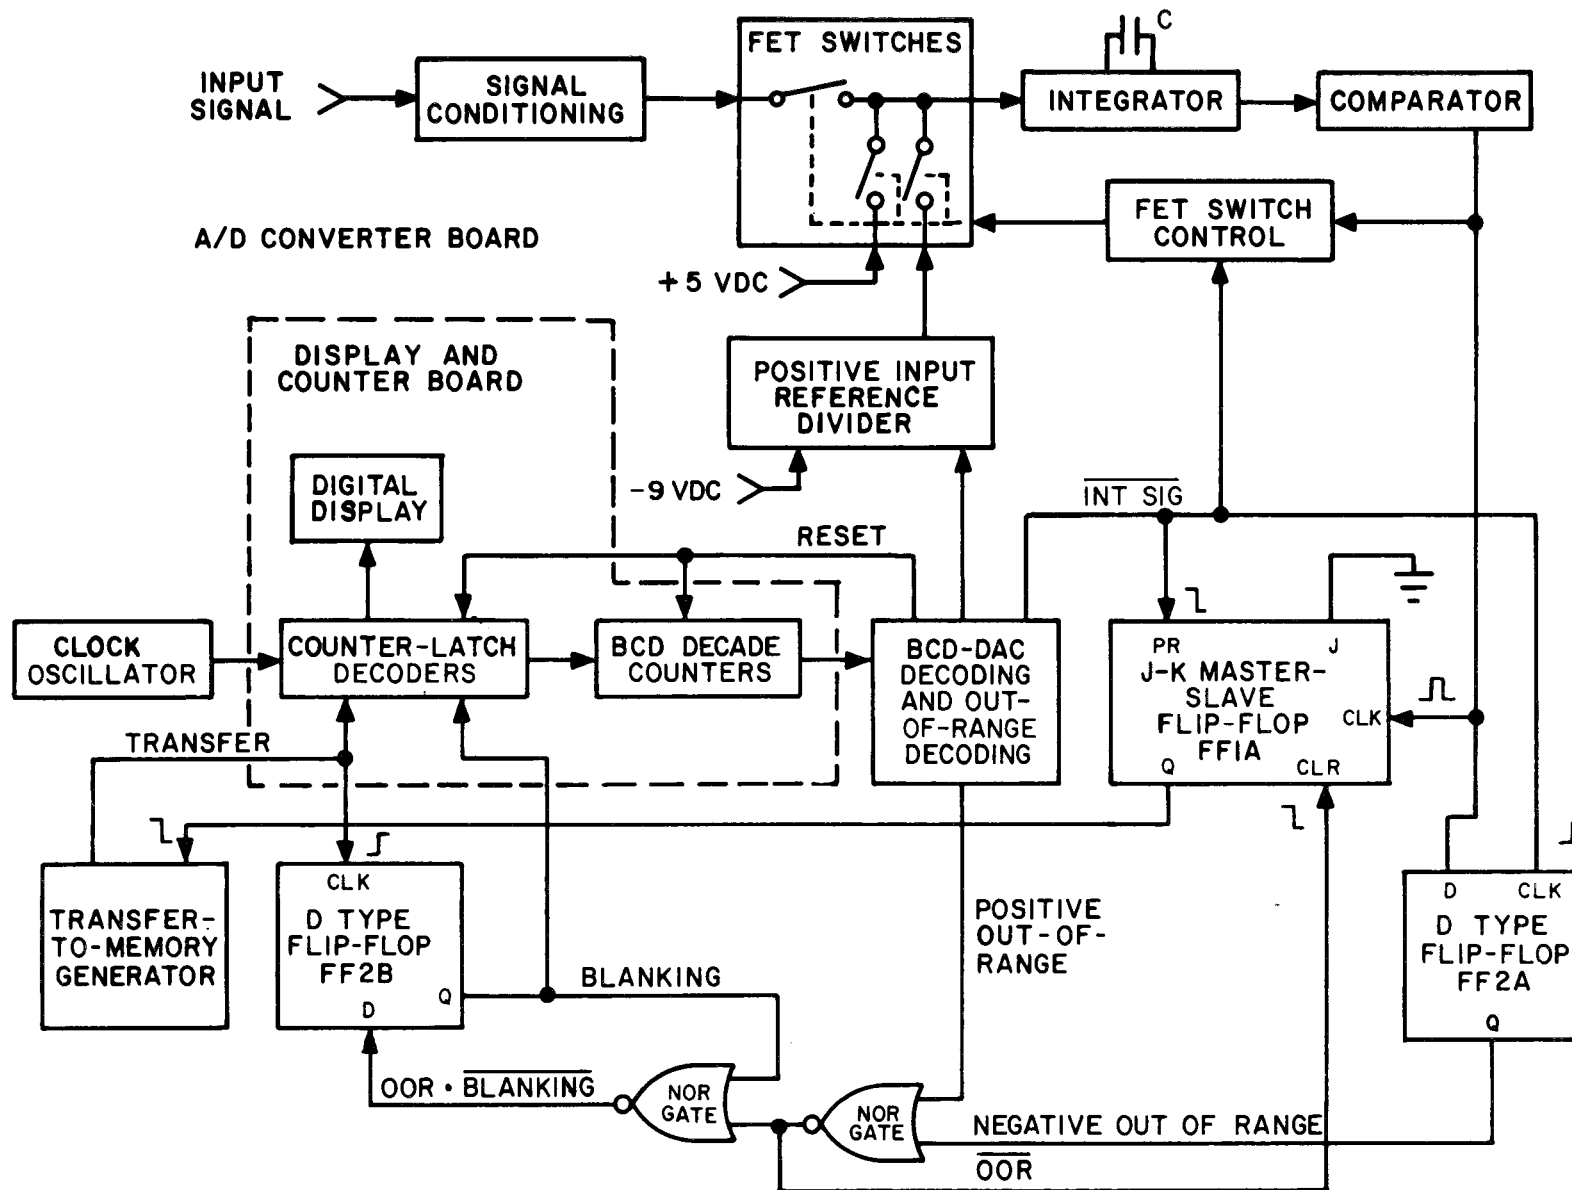
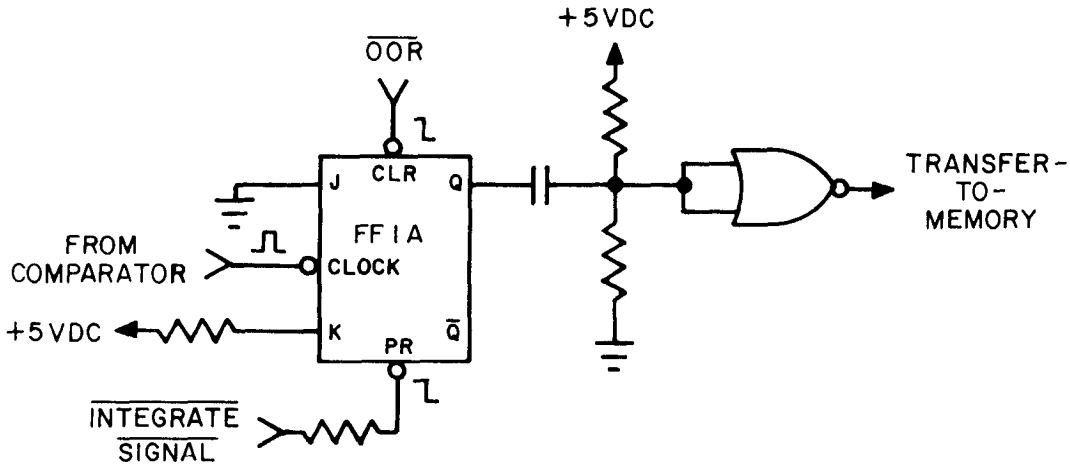

Figure 1-3. Block Diagram of A/D Converter.
Figure 1-10. Circuitry That Generates Transfer-to-Memory.
(a) **An Overview.** Figure 1-3 is a block diagram of circuitry common to both tester A/D converters. The A/D converters use the "dual-slope integration" technique. The slopes refer to the charge and discharge curves of integrating capacitor C, figure 1-3. C is charged by the integrator during a fixed interval of time called the signal integration period when the amplified input signal is allowed to pass through the signal field-effect transistor (FET) switch and drive the integrator. The signal integration period is controlled by the continuously running clock oscillator, BCD decade counters, BCD-DAC decoding, and FET switch control. At the conclusion of the signal integration period, which is the beginning of the reference integration period, the counters are reset, the signal FET switch is opened, and the appropriate reference FET switch (+ or - reference) is closed. During the reference integration period, the integrating capacitor is discharged by the integrator. The discharging voltage is a +5 vdc if the input signal is negative and it is the output of a precision negative reference voltage divider if the input signal is positive. If the input signal is in-range, the comparator detects the instant the capacitor is completely discharged and clocks flip-flop FF1A, causing the generation of a transfer-to-memory pulse, ending the reference integration period. Transfer-to-memory (TRANSFER, fig. 1-3) shifts the "reference integration period" count, which represents the digitized input signal, into the latches of the counter-latch-decoders, updating the display. If the input signal is negative, this fact is detected by FF2A at the start of the reference integration period and FF2A causes FF1A to be cleared, generating transfer-to-memory. If the input signal exceeds the range of the indicator, out-of-range decoding causes FF1A to be cleared and generate transfer-to-memory. A positive or nega-
generated when FF1A (fig. 1-10) is cleared. FF1A may be cleared in one of two ways: (1) when it is clocked by the comparator at the conclusion of the reference integration period of an in-range signal, and (2) by the out-of-range signal (OOR) when the input signal is detected to be negative or positive out-of-range. Positive out-of-range signals are detected by out-of-range decoding (fig. 1-3) and negative out-of-range signals cause the comparator to set FF2A at the conclusion of the signal integration period. FF1A (fig. 1-10) is preset at the beginning of the signal integration period.
input of the CLD's is controlled by FF2B (fig. 1-3) and goes high to blank an indicator display on every other reading when the input signal to the indicator is out-of-range.